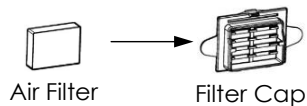

Fig. 16-7
(1) Attach the air filter to the filter cap, as shown in Fig. 16-7.